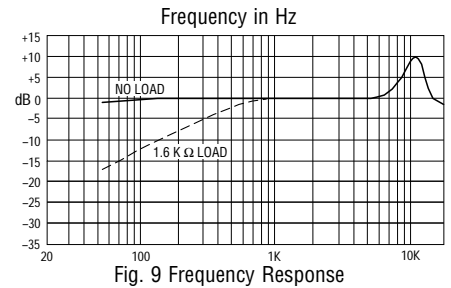

Fig. 9 Frequency Response
- Frequency response (typical):** 50 Hz to 16 kHz (10 Kohm load), 300 Hz to 16 kHz (1500 ohm load). See Fig. 9.